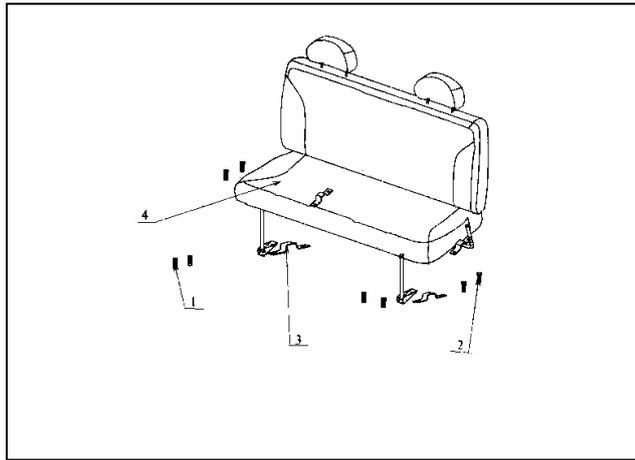

Fig. 19-7
(1) The removal sequence of rear row seat is shown in Fig.19-7: